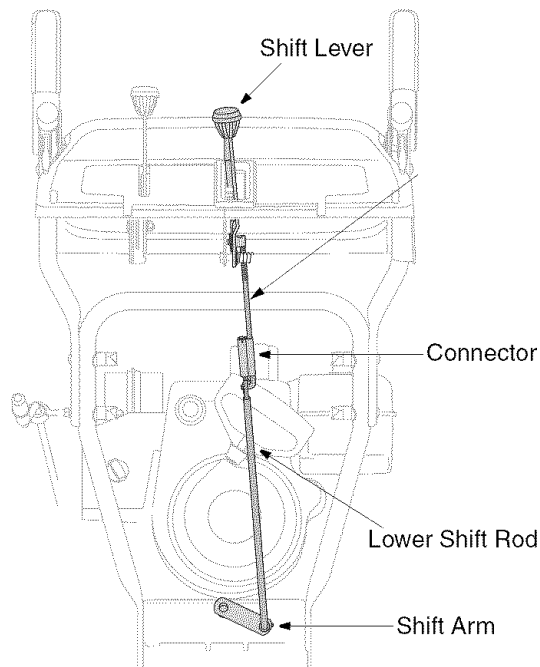

**Figure 26**
10. With the drive control engaged, check if the friction wheel contacts the drive plate. See Figure 26.